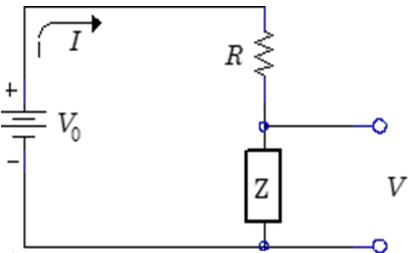

FIGURE 10. Circuit for load line analysis.
*Graphical analysis: load lines.* Consider the simple circuit in shown in Fig. 10, which contains a voltage source  $V_0$ , a resistor  $R$  and a generic nonlinear component that does not contain a voltage source and has a voltage-dependent impedance  $Z(V)$ , where  $V$  is the voltage across the component. The voltage of the source must be equal to the sum of the voltage across the resistor and non-linear component:  $V_0 = V + IR$ . We can then solve for the current as a